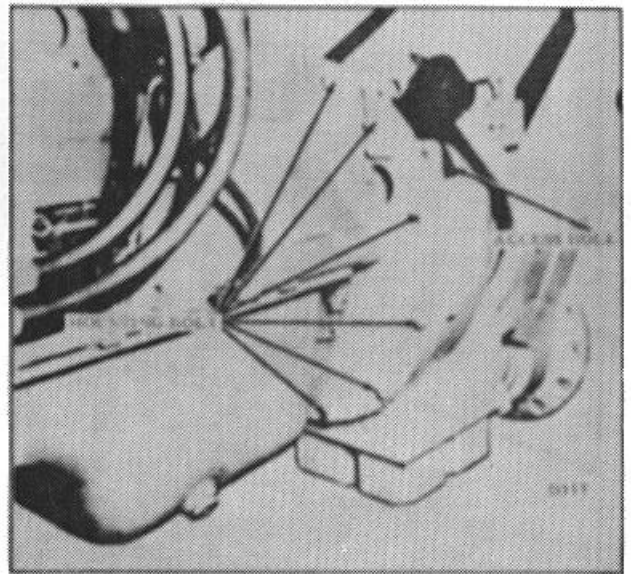

Figure 35.
1. Remove the bolts holding the converter to the engine flywheel. These are accessible through the opening at the right hand top of the converter housing. (Fig. 35)
5. Remove the bolts retaining the converter housing to the engine adaptor plate. The heads of the bolts are in back of the plate. (Fig. 35)